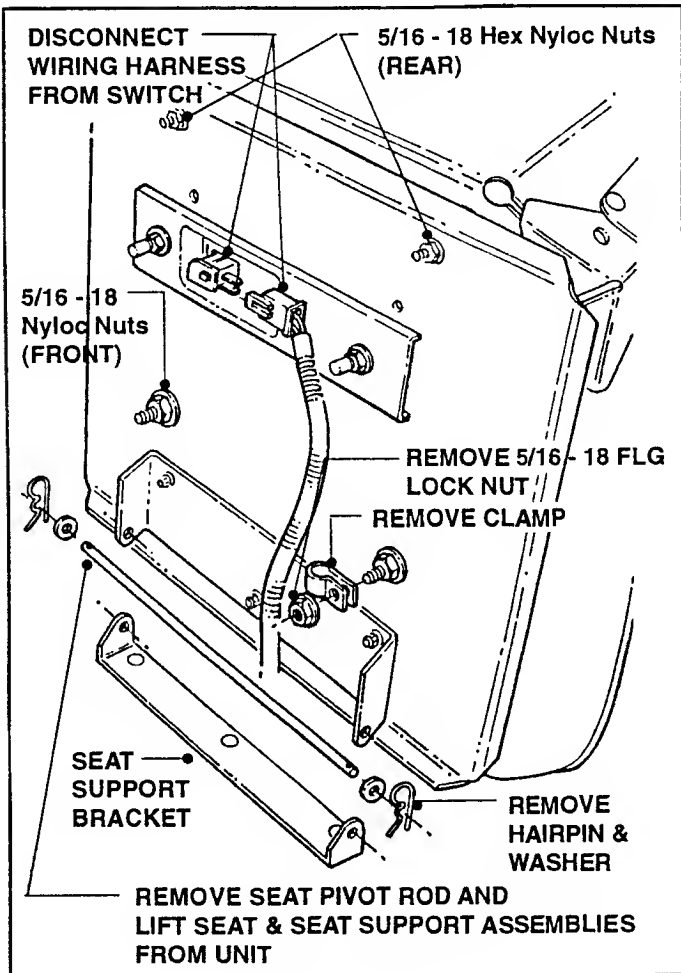

FIGURE 6.6
1. Tilt Seat Assembly forward, then disconnect Wiring Harness from Switch. See Figure 6.6 on Page 6.7.
1. Disconnect Wiring Harness from Switch. Refer to Figure 6.6 on Page 6.7.
3. Remove the two (2) front 5/16 - 18 Hex Nyloc Nuts first.
4. Next, while holding Seat Assembly, remove the two (2) 5/16 - 18 Hex Nyloc Nuts from the rear of the Support Plate.